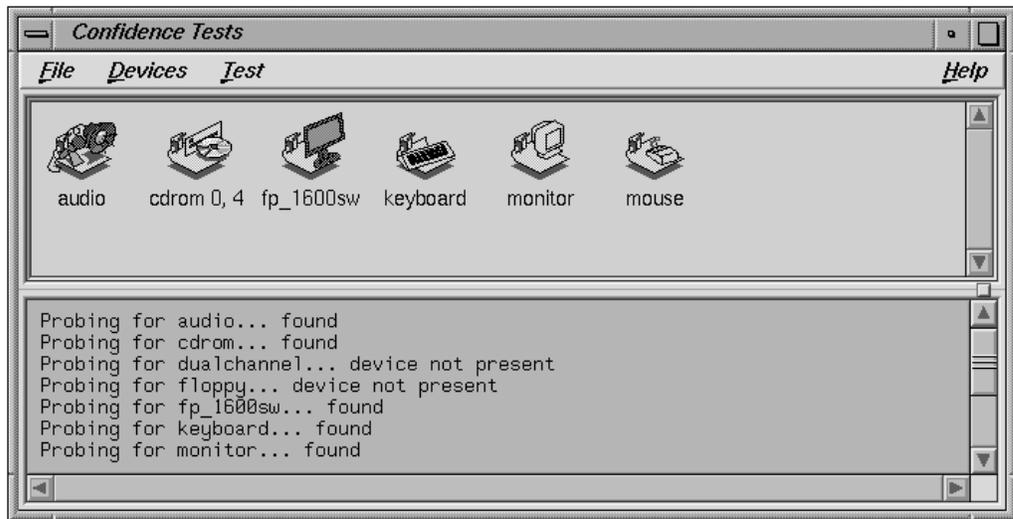

Figure 3-1 Confidence Tests Window
2. You see the Confidence Tests window, which should look similar to Figure 3-1.